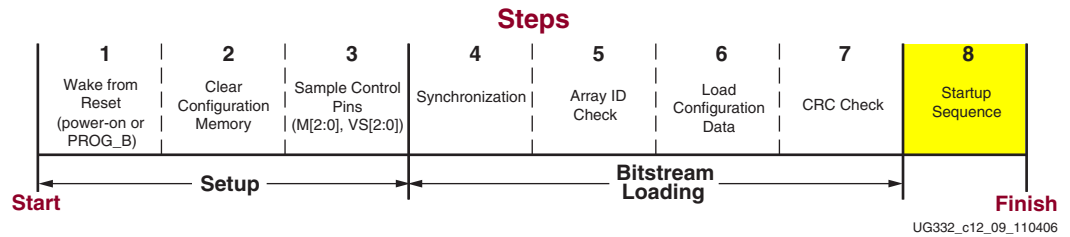

Figure 12-11: Startup Sequence
3. Hold the `DONE` pin Low, which prevents the FPGA from completing the Startup Sequence, shown as Step 8 in Figure 12-11, page 253. `DONE` should transition monotonically with a rise time less than one `CCLK` period. If there is a slow `DONE` transition, the device may not complete startup. If there is a non-monotonic or noisy `DONE` transition, the device may complete startup but not function correctly.